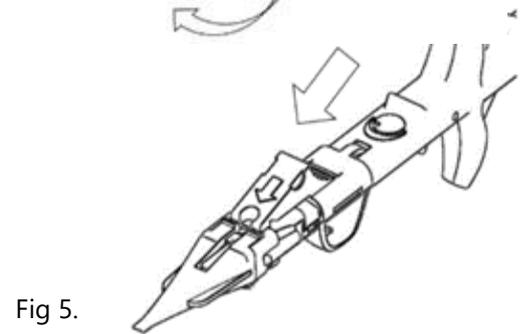

Fig 5.
- Push the red stopper forward until it clicks to secure the cartridge nozzle and at the same time to release the pushing rod, as shown in Fig. 5. Avoid premature pushing of the rod which is freely movable after this action.